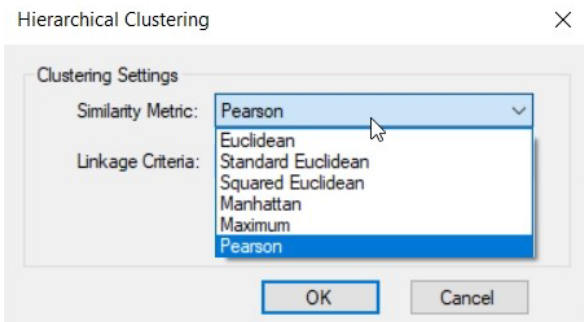

Figure 7-35: Similarity Metric Options
2. Select a Similarity Metric. Commonly used similar metrics between two sets of observations A and B are available (Figure 7-35). Euclidean or Pearson and more details for all clustering formulas are summarized in “Hierarchical Clustering Formulas” on page 155. The choice of an appropriate metric influences the shape of the clusters.